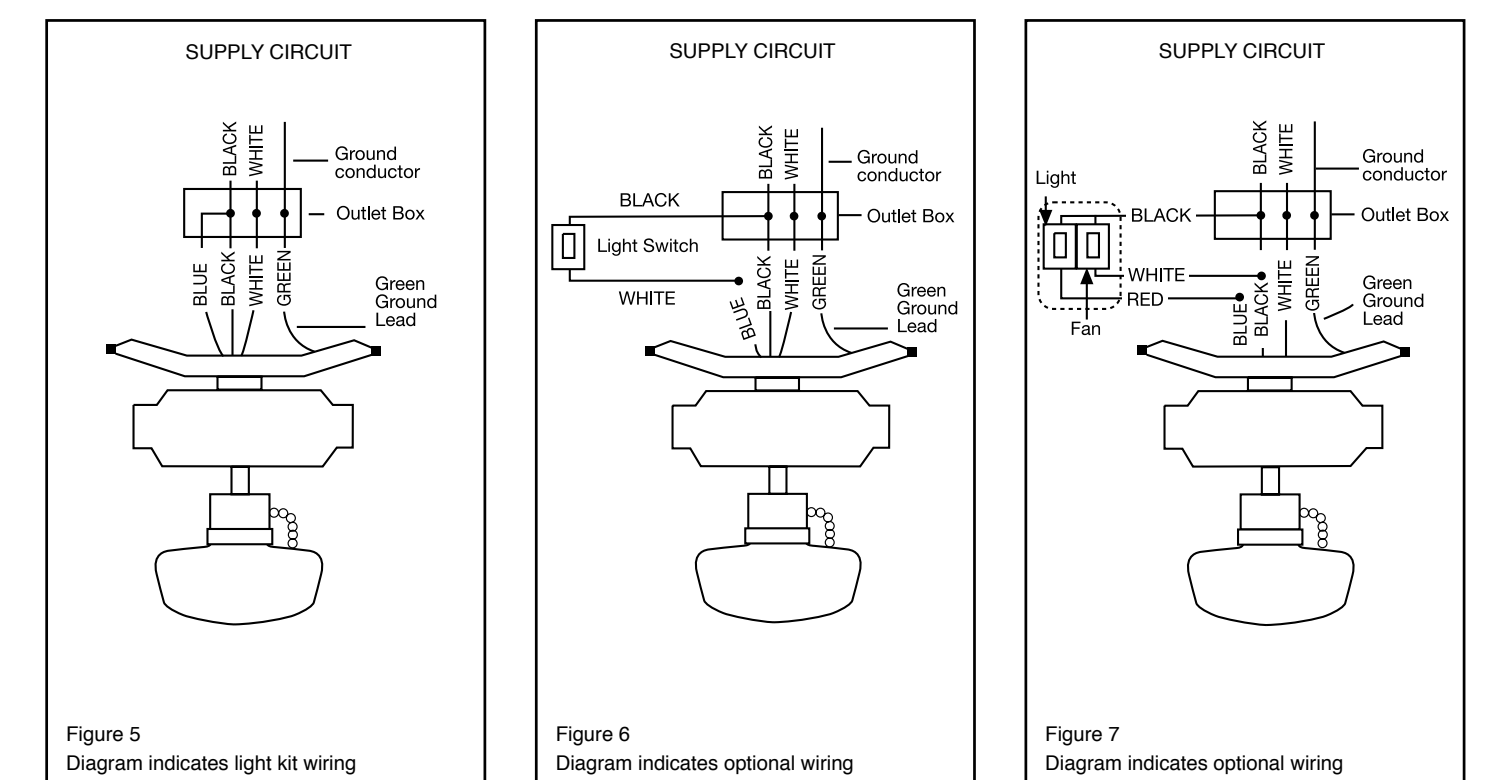

Figure 5
Step 1 Connect the fan supply (black) wire and light supply (blue) wire to the black household wire as shown in Figure 5. Do not connect the blue wire if the light kit is not used.